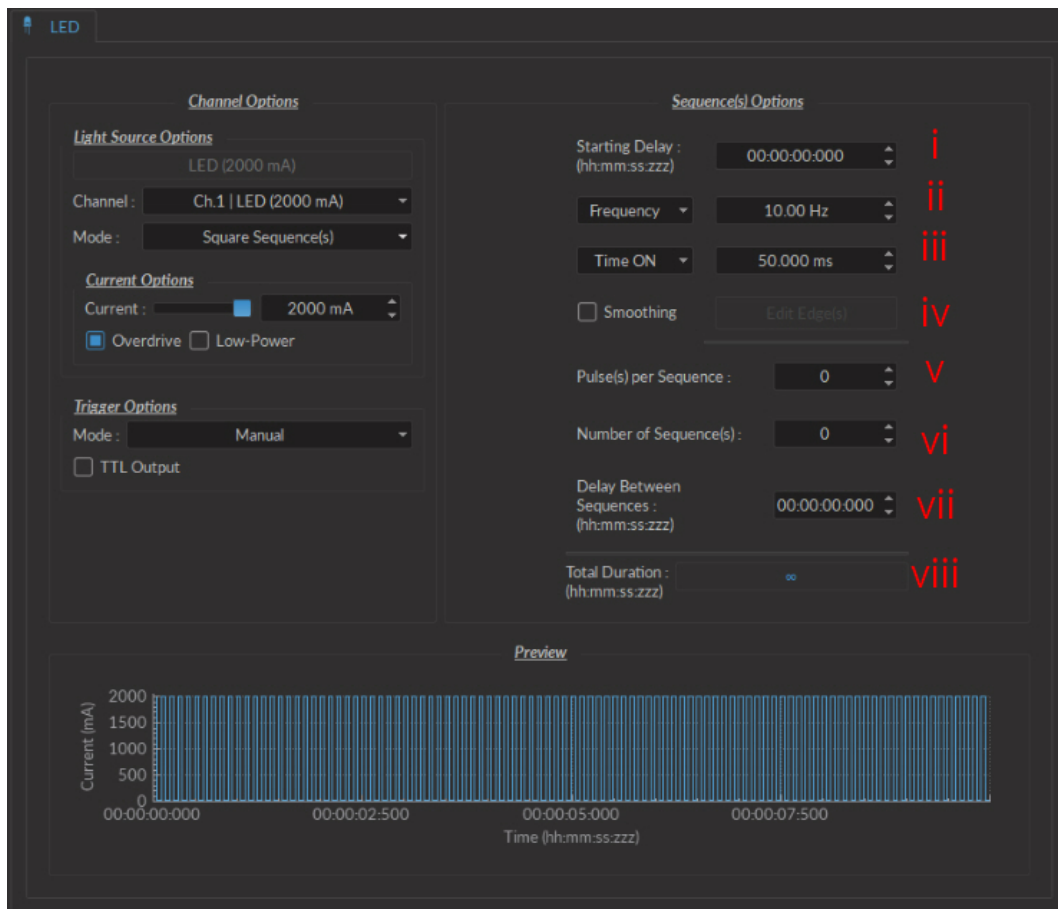

Figure 4.6: Light Source Channel Configuration Window, square sequence options
- i. The **Starting Delay** (Fig. 4.6) sets the delay (in hh:mm:ss:zzz format) before the first pulse.
- ii. The **Frequency/Period** (Fig. 4.6) sets the frequency (in Hz) or period (in ms) for the pulse sequence. For example, a signal at 10 Hz (frequency) will output one pulse every 100 ms (period), whereas a pulse sequence at 0.5 Hz (frequency) will output one pulse every 2000 ms (period).
- iii. The **Time ON/Duty Cycle** (Fig. 4.6) sets the time (in ms) or the duty cycle (in %) for each pulse. The **Time ON** must be lower than  $(1/\text{frequency}) + 0.005$  ms, while the **Duty cycle** must be below 100 %. These squares will appear red should an impossible **Frequency/time ON** be selected. Should the **Smoothing** option be selected, this feature becomes inaccessible.
- v. The **Pulses per sequence** (Fig. 4.6) sets the number of pulses per sequence. If it is set to 0, the pulse will be repeated indefinitely.
- vi. The **Number of sequences** (Fig. 4.6) sets the number of times that the sequence will be repeated. If it is set to 0, the sequence will be repeated indefinitely.
- vii. The **Delay between sequences** (Fig. 4.6) sets the delay (in hh:mm:ss:zzz format) between each sequence if the **Number of Sequences** is greater than 1.
- viii. The **Total Duration** (Fig. 4.6) displays the total time of the experiment. The different values can be *Inf* for infinite, a valid time value or *Err* if the **Time ON** value is greater than 1/frequency.